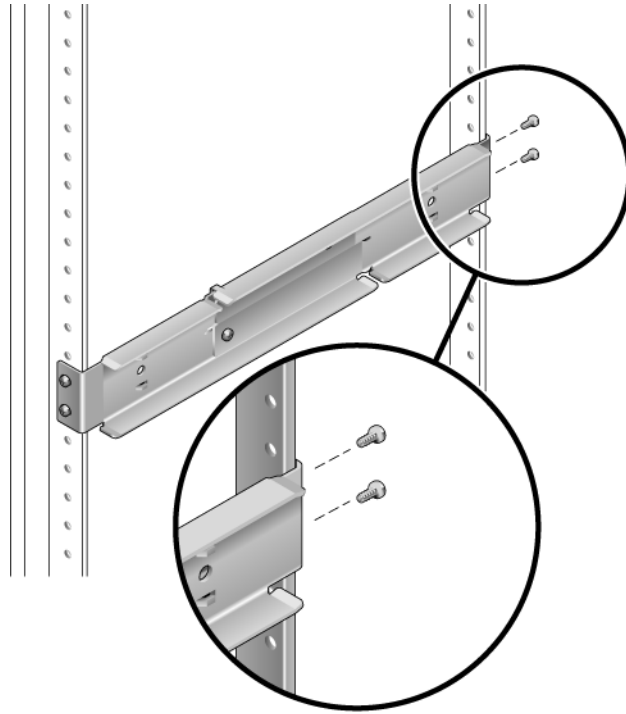

FIGURE 2-17 Securing the Rear of the Adjustable Rails to the Rack
4. At the rear of the rack, use two screws to secure the rear of the adjustable rails to the rack (FIGURE 2-17).